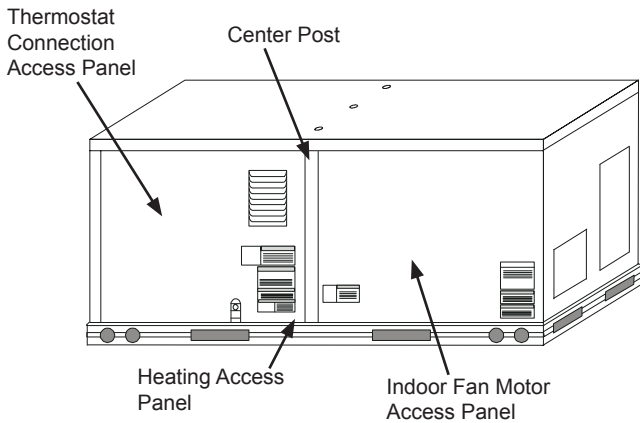

Fig. 9 - Typical Indoor Fan Motor Access Panel Locations
12. Remove the indoor fan motor access panel. (See Fig. 9.)